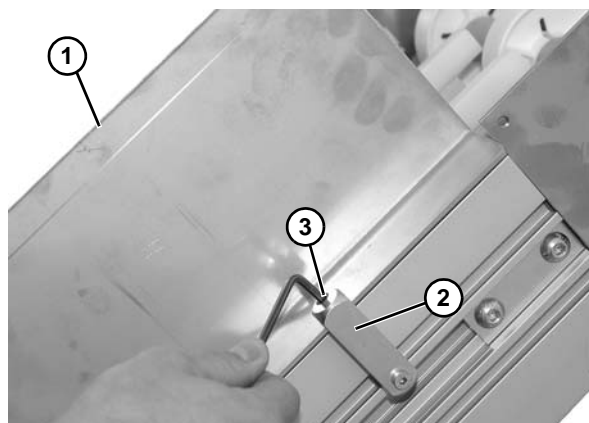

Figure 33
3. Install guide (**Figure 33, item 1**) onto top slot in guide block (**Figure 33, item 2**) and secure with set screw (**Figure 33, item 3**).